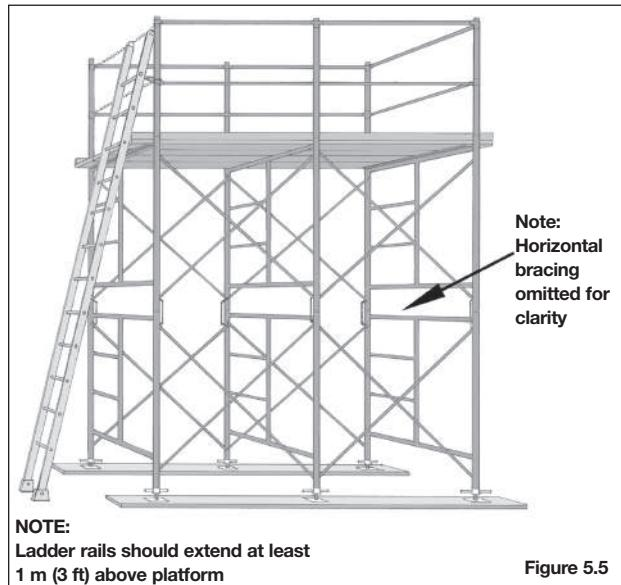

Figure 5.5
- use a portable ladder where platform elevations are less than 9 metres (30 feet) in height (Figure 5.5)